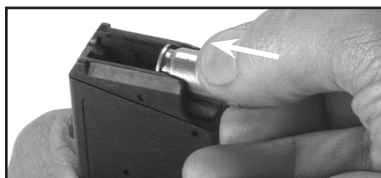

Fig. 17 Filling the magazine
- Slide individual cartridges under the magazine lips one by one (Fig. 17).